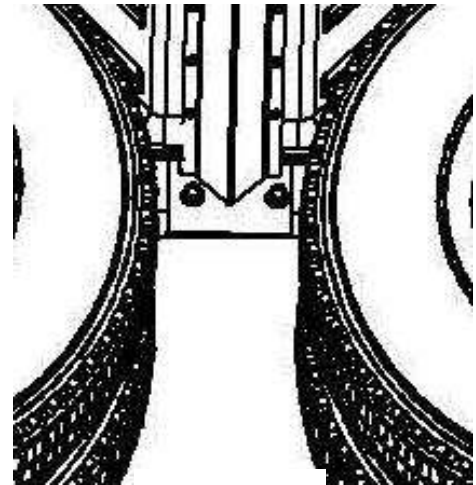

Figure 19
- A.** The center bracket PB2011 will be attached to the truck frame. It is possible to bolt a plate (not supplied) to the frame and weld the brackets to that plate (Figure 19). Another option is to weld the bracket directly to the frame.